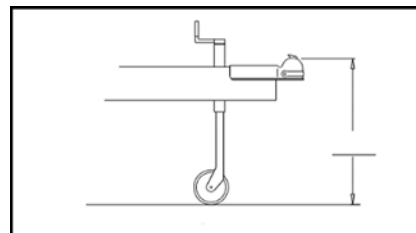

Figure 1: On a level surface, measure the height of your trailer coupler to ground.
•Line up tow vehicle and trailer on level pavement, in straight-ahead position, uncoupled. Level the trailer and measure and record the distance from the ground to the top of the coupler (see Figure 1).
•**NOTE:** The ball height should be greater than coupler height by approximately 3/4" to 1" (see Figure 1) to compensate for vehicle squat. For vehicles with air springs, air shocks or an automatic leveling system, check vehicle owner's manual. Unless otherwise specified make sure you adjust the ball mount and do the trailer set up with the trailer and vehicle loaded as they will be when towing. Raised balls usually have reduced load ratings. Ball rating **MUST** equal or exceed trailer GVWR.
•Rivet (10) and 7 spacer washers (9) are supplied in order to gain correct downward angle of spring bars. For an initial fitment, try 4 spacer washers for top mounted couplers and 3 spacer washers for bottom mounted couplers. Insert rivet (10) and depending on angle or slope of bars that must be gained, use the least amount of washers (9) necessary in order to establish correct angle. (See Figures 1, 2, and 3).
•The rivet (10) and its accompanying washers (9) are placed in the 1/2" hole between the "U" on ball mount (1) to acquire desired angle of spring bar (5). Once spring bar (5) angle has been determined, insert top bolt (6) with serrated washer (7). Install second serrated washer (7) and nut (8) to secure unit in correct position. Before tightening bolts, lock (tighten) ball mount set screw. Tighten the 3/4" top bolt (6) to 260 ft. lbs. torque once head angle is set. Secure lower bolt (6) to 260 ft. lbs. torque. After first day of towing, check ball mount set screw for tightness.